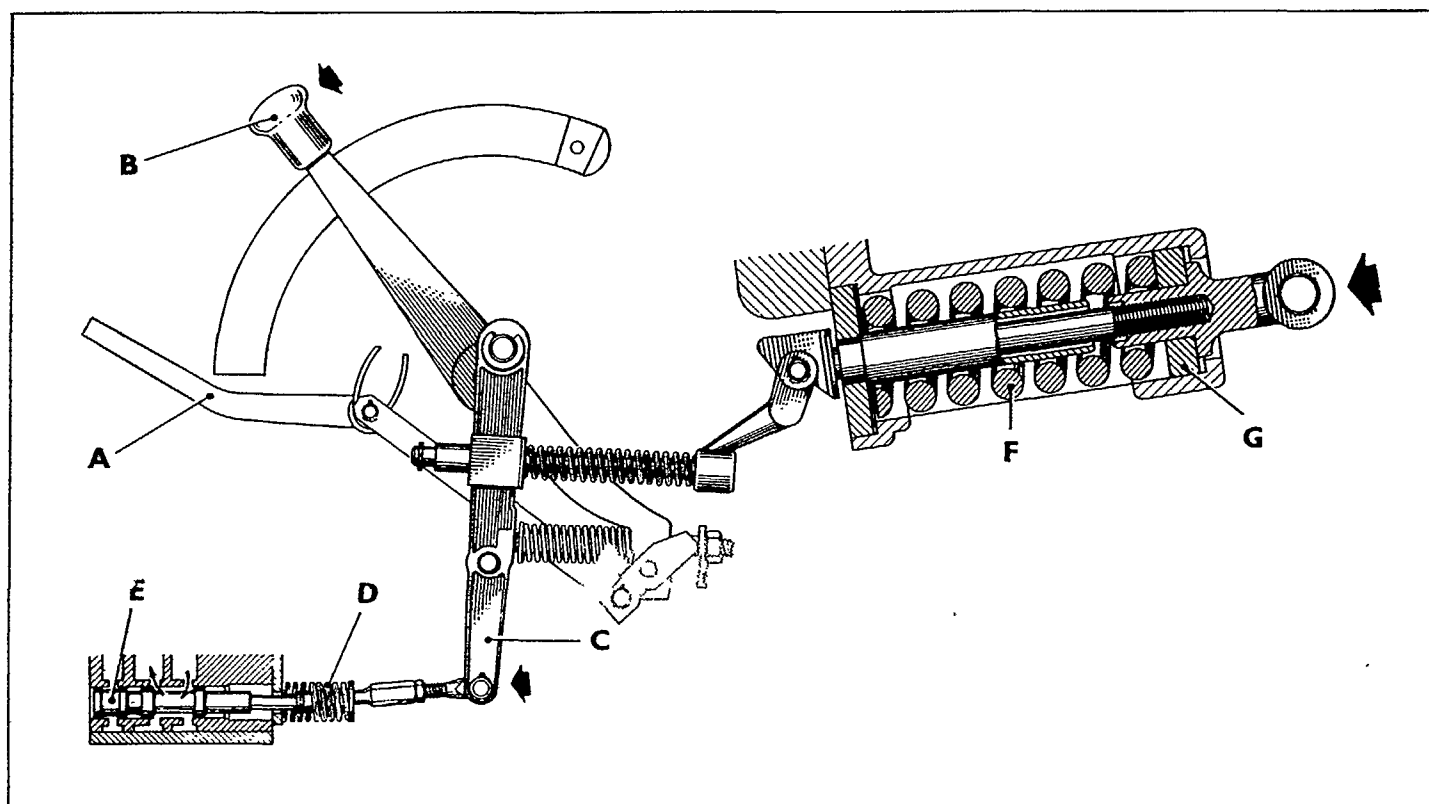

Figure 5
1. When working in Draft Control an increase in draft at the implement will compress the draft control main spring 'F' in a forward direction, Figure 5, moving the control valve actuating lever 'C' forward. The actuating lever overcomes the pressure of the control valve spring 'D' and moves the control valve 'E' into the raising position. As the implement is raised the draft force and hence the pressure on the draft control main spring decreases to the original amount. The control valve spring will then move the control valve into the neutral position.